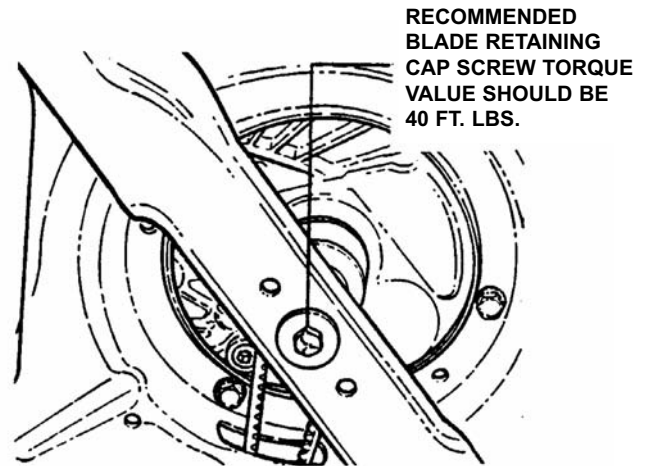

FIGURE 3.2
2. Tilt mower up on its rear wheels for access to the blade cap screw. Do not tilt mower with spark plug or carburetor down. See Figure 3.2.
3. Check torque of blade retaining cap screw. Recommended torque should be 40 ft. lbs. See Figure 3.2.